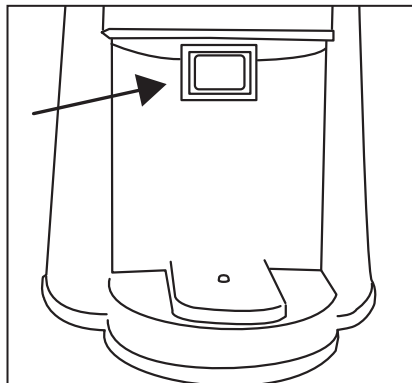

Figure 4
7. Cleaning brush can be used to remove dust from grind chamber chute located behind the removable grinding chamber (Figure 4).